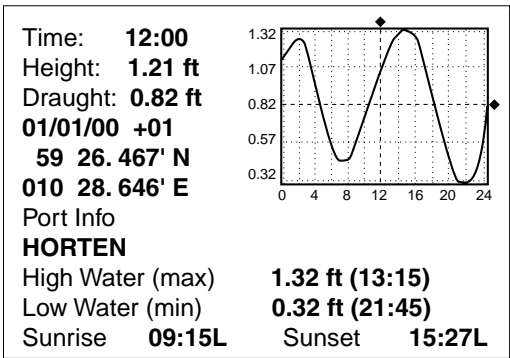

Figure 12-10 TIDE window
- Press the soft key GO TO. Soft key titles change as in Figure 12-10. If GO TO key is not displayed, press the cursor pad.